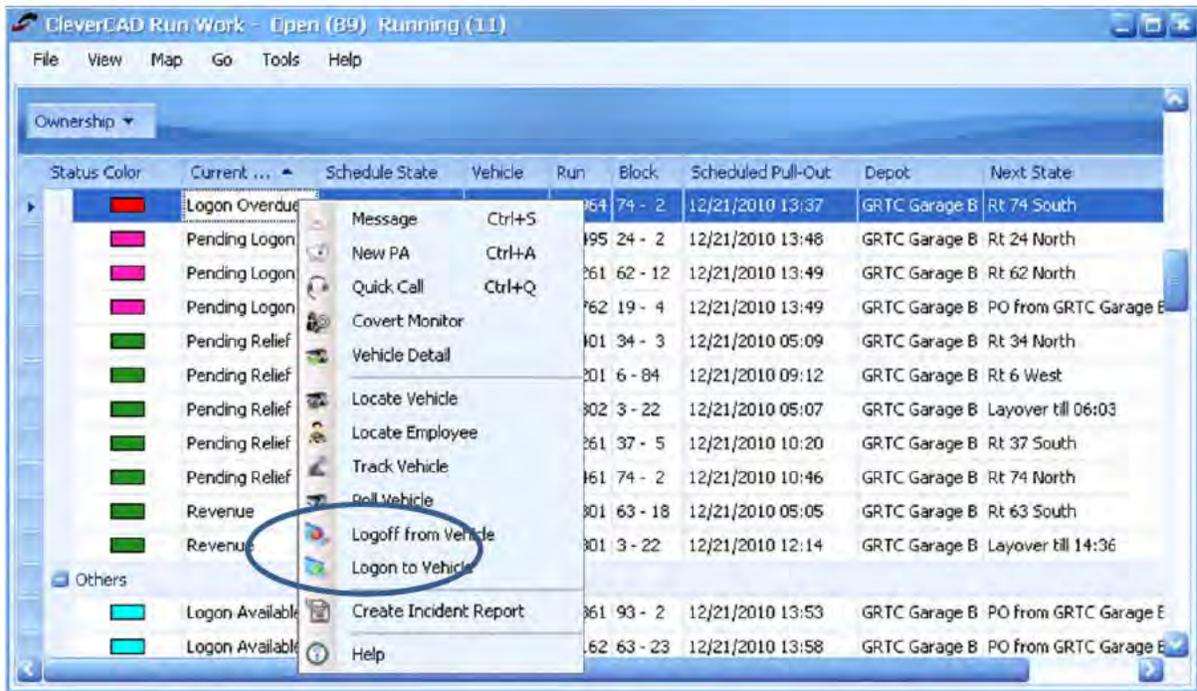

Figure 60: Run Work Grid
- The dispatcher can access the remote logon and remote logoff features from the run work grid or the vehicle status grid an example is shown in Figure 60.